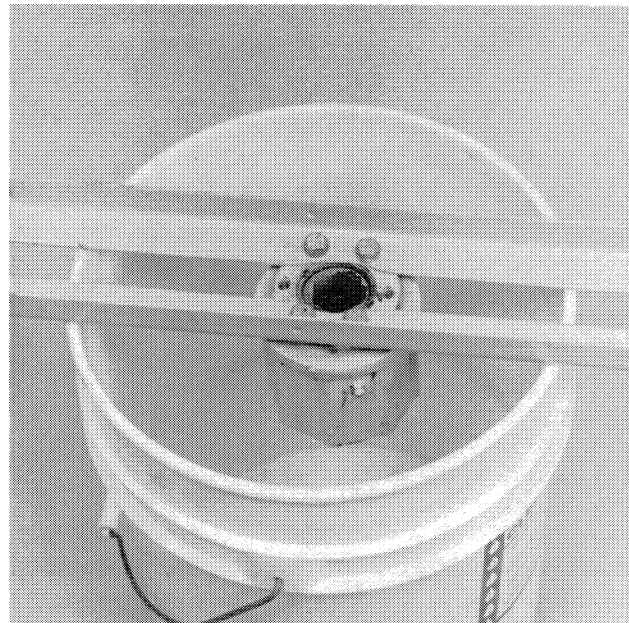

Figure 2-15
3. Mount the two pieces of angle iron, F, Figure 2-10, on the clutch using four 5/16" x 1" cap screws and lock washers. Place the assembly in a 5-gallon bucket as shown in Figure 2-15.